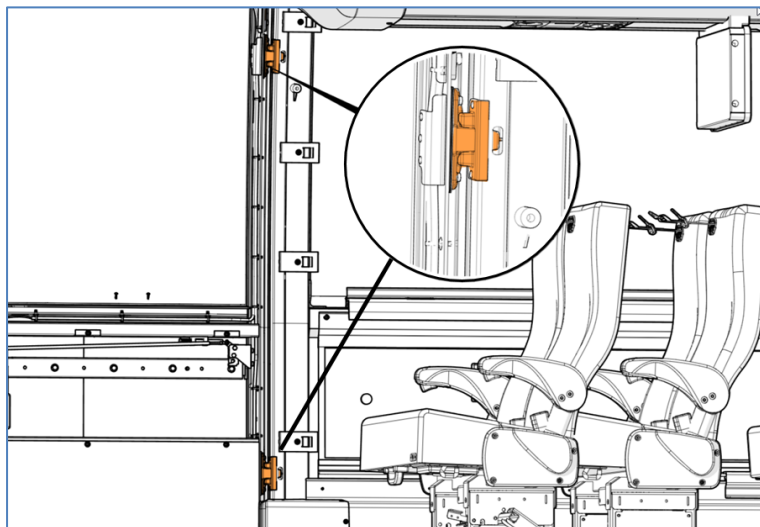
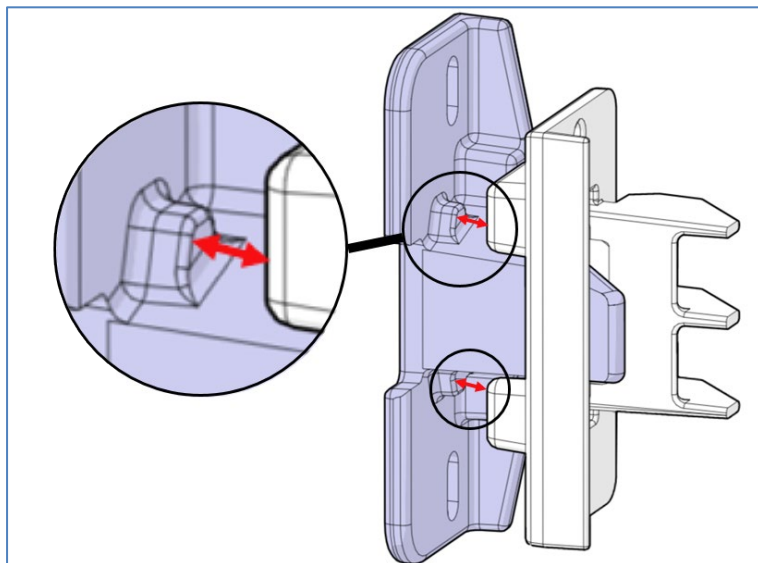

Figure 30
Figure 32
4. **Close the door** to the second latch state. Check if the lower and upper finger/receptacle are properly adjusted (Figure 30). Use feeler gages to assess the gap between the small boss on the finger and the receptacle face (Figure 32).
Confirm the gap (Figure 32):